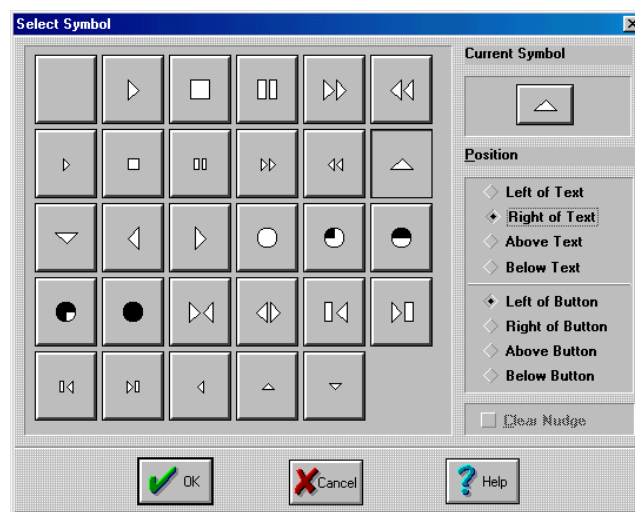

FIG. 8 Select Symbol dialog
2. Click Button > Add Symbol to open the Select Symbol dialog shown in FIG. 8. You can also click an existing symbol to automatically open the dialog.